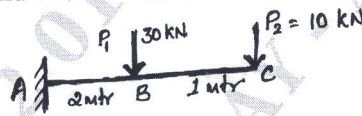

Fig Q8(b)
b. A cantilever is subjected to the forces as shown in Fig Q8(b). Determine the deflection at the free end. Taking $E = 210\text{GPa}$ and $I = 20 \times 10^{-4}\text{m}^4$.